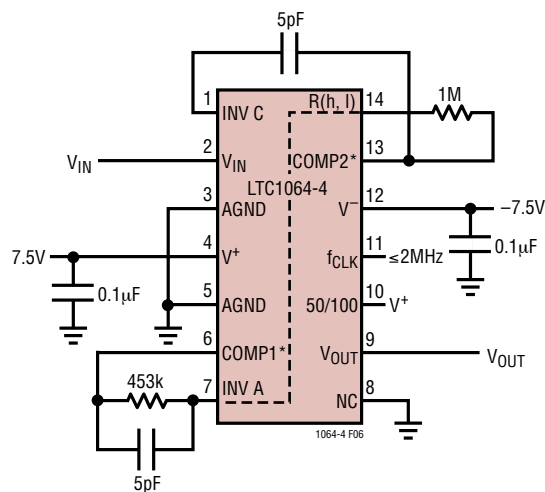
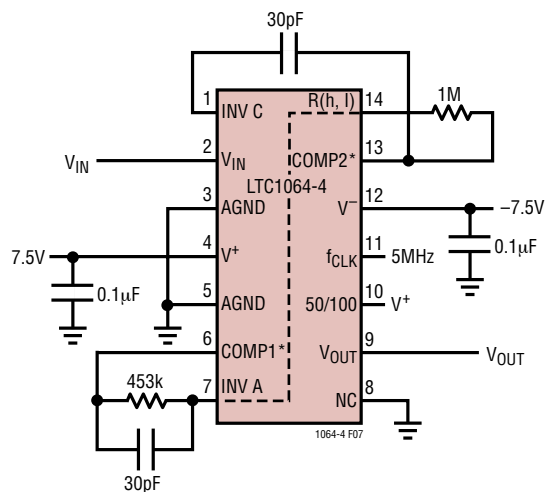

Figure 6. Compensating LTC1064-4 for Passband Ripple of ±0.1dB and fCUTOFF Sweeps to 40kHz.
Figure 7. Compensating LTC1064-4 for fCUTOFF = 100kHz, Gain at fCUTOFF = -1.3dB, Table 8.
Table 8. Gain/Phase for Figure 7.
Table 9. Gain/Phase for Figure 7.
**INV C, COMP1, INV A, COMP2 (Pins 1, 6, 7 and 13):** To obtain a Cauer response with minimum passband ripple and cutoff frequencies above 20kHz, compensating components are required. Figure 6 uses  $\pm 7.5\text{V}$  power supplies and compensation components to achieve up to 40kHz *sweepable* cutoff frequencies and  $\pm 0.1\text{dB}$  passband ripple. Table 7 lists the typical amplitude response of Figure 6. Figure 7 illustrates the compensation scheme required to obtain a 100kHz cutoff frequency; Graph 4 and Tables 8 and 9 list the typical response of Figure 7 for 25°C and 125°C ambient temperature. As shown the ripple increases at high temperatures but still a  $\pm 0.25\text{dB}$  figure can be obtained for ambient temperatures below 70°C.